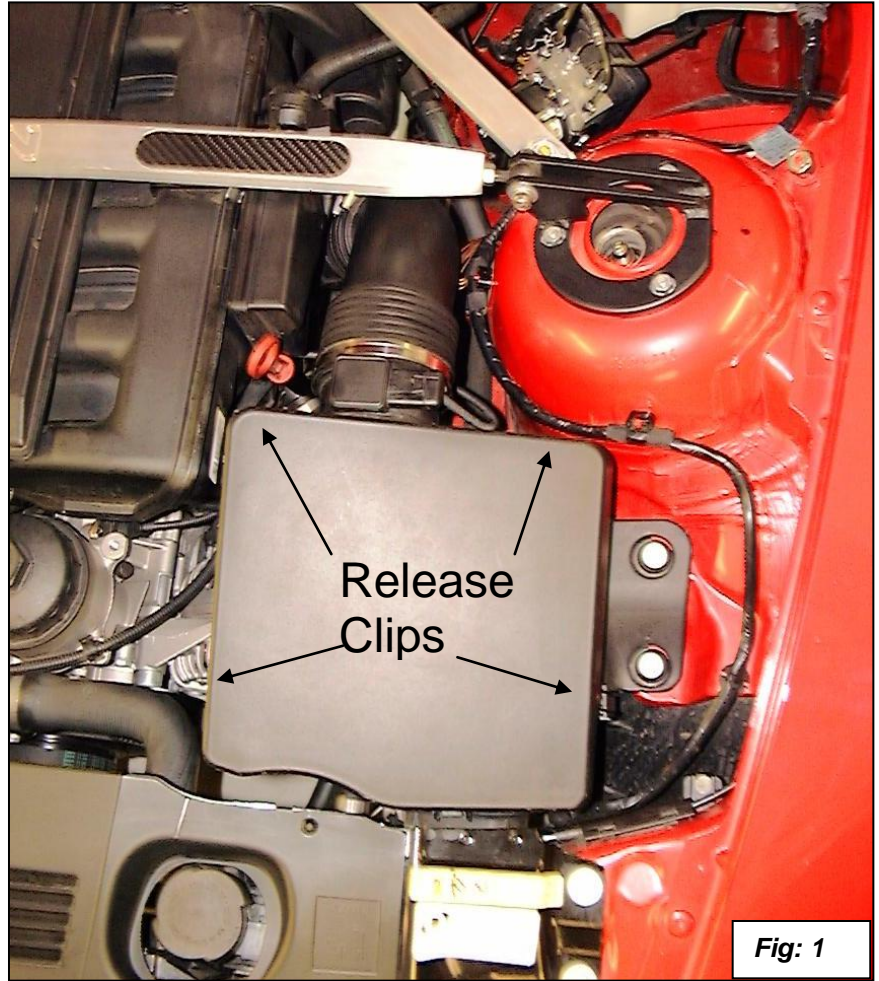

Fig: 1
1. Open hood and remove stock airbox lid (**see Fig. 1**). Separate the airbox Lid from the airbox base by unclipping the retaining clips and remove lid. See figure 1.